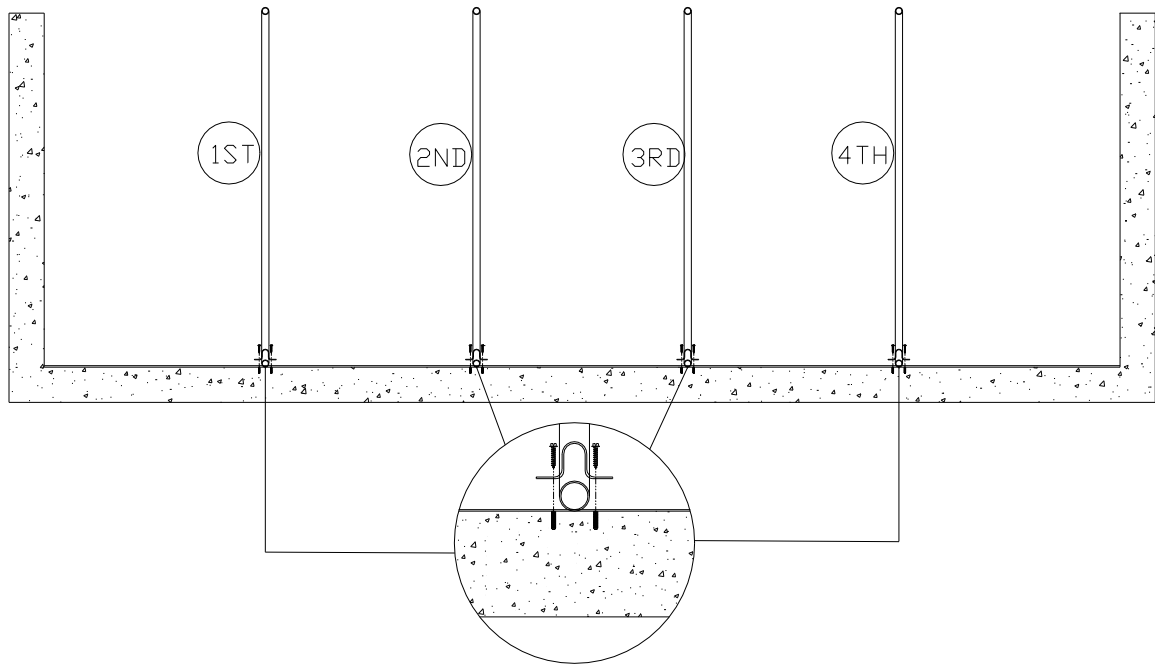

Figure 5
5. Starting from the point you selected in step B-1 place the first “outside division panel” on the corresponding “Sanislope Channel”. See Figure 5 for the sequence in which to assemble the panels. Orient the first specified “division panel” against the wall as shown in the exploded view of Figure 5, so that it is centered under the mark applied in section B-4.
6. Using a level, plumb the panel by sliding the “Isolation Hangers” within the “Isolation Channel” as required. Push the panel tight against the wall. Using the “Wall Clamps” as a template, place one clamp at each tie location on the panel as shown in Figure 5 above. Mark the wall through each hole in the clamps. When all the holes are marked either set the panel aside or lean it to the side.